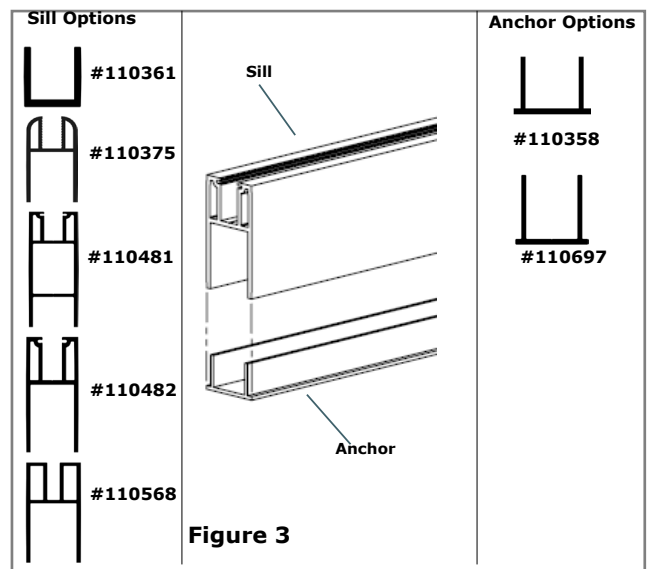

Figure 3
3. Place the sill over the anchor channel and secure. **See Figure 3.**